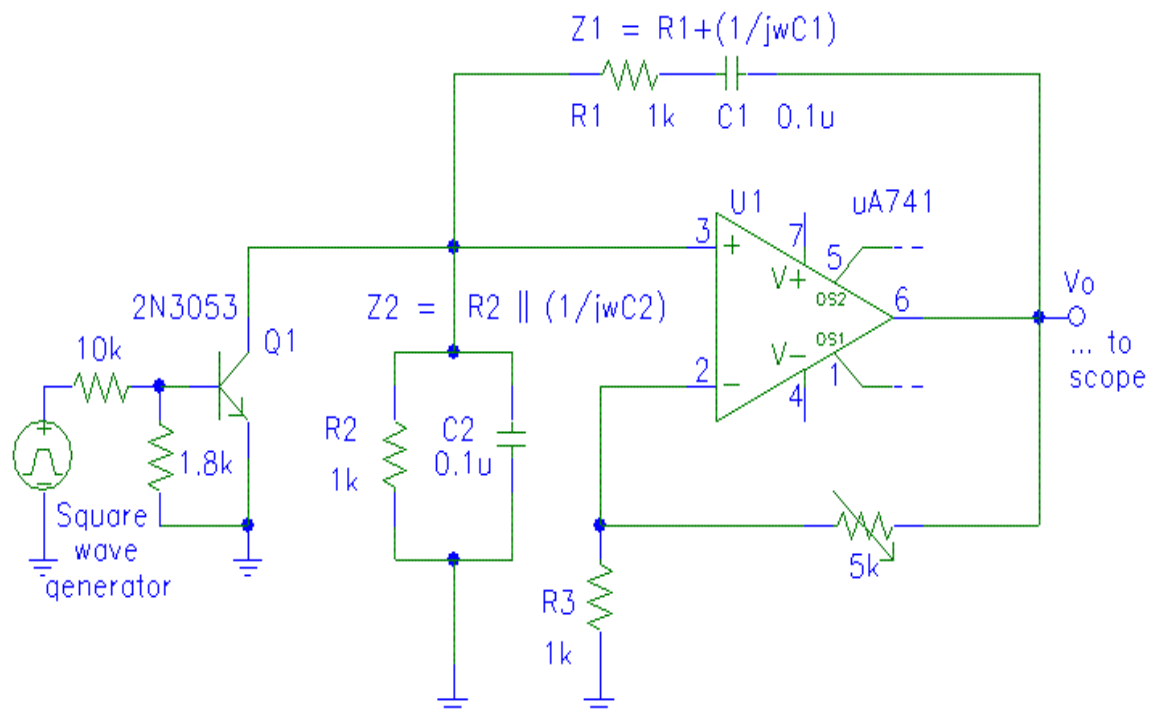

Figure 5
- Rate Of Build Up Of Oscillation: Modify the circuit as shown in figure 5. The transistor Q1 acts as a switch and stops the oscillation when the square wave generator output is positive. When the generator output goes negative, oscillation begins to build up. The scope is also triggered